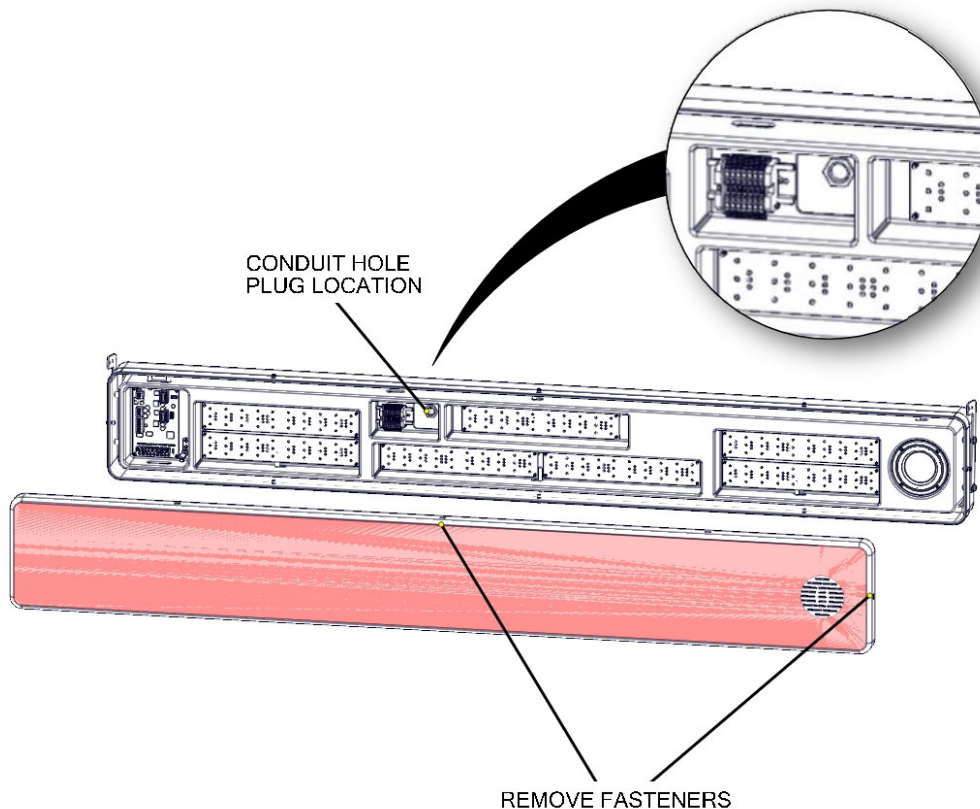

Figure 165 – Advanced Instructional Sign Preparation for Installation
- Remove the conduit hole plug located on the back of the sign base, Figure 165. Caution must be taken not to damage the circuit board and the audio speaker.